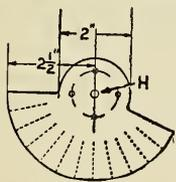
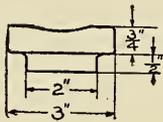

FIG. 72
FIG. 73
Now cut from some 1-32-inch spring brass a piece as shown in Fig. 72 and slit it as indicated by the dotted lines. Obtain a $\frac{3}{8}$ -inch brass bolt $1\frac{1}{2}$ inches long, put it through the hole (H) and solder. Now make a small wooden handle as shown in Fig. 73. The fan-shaped piece of brass can now be fastened to the handle with